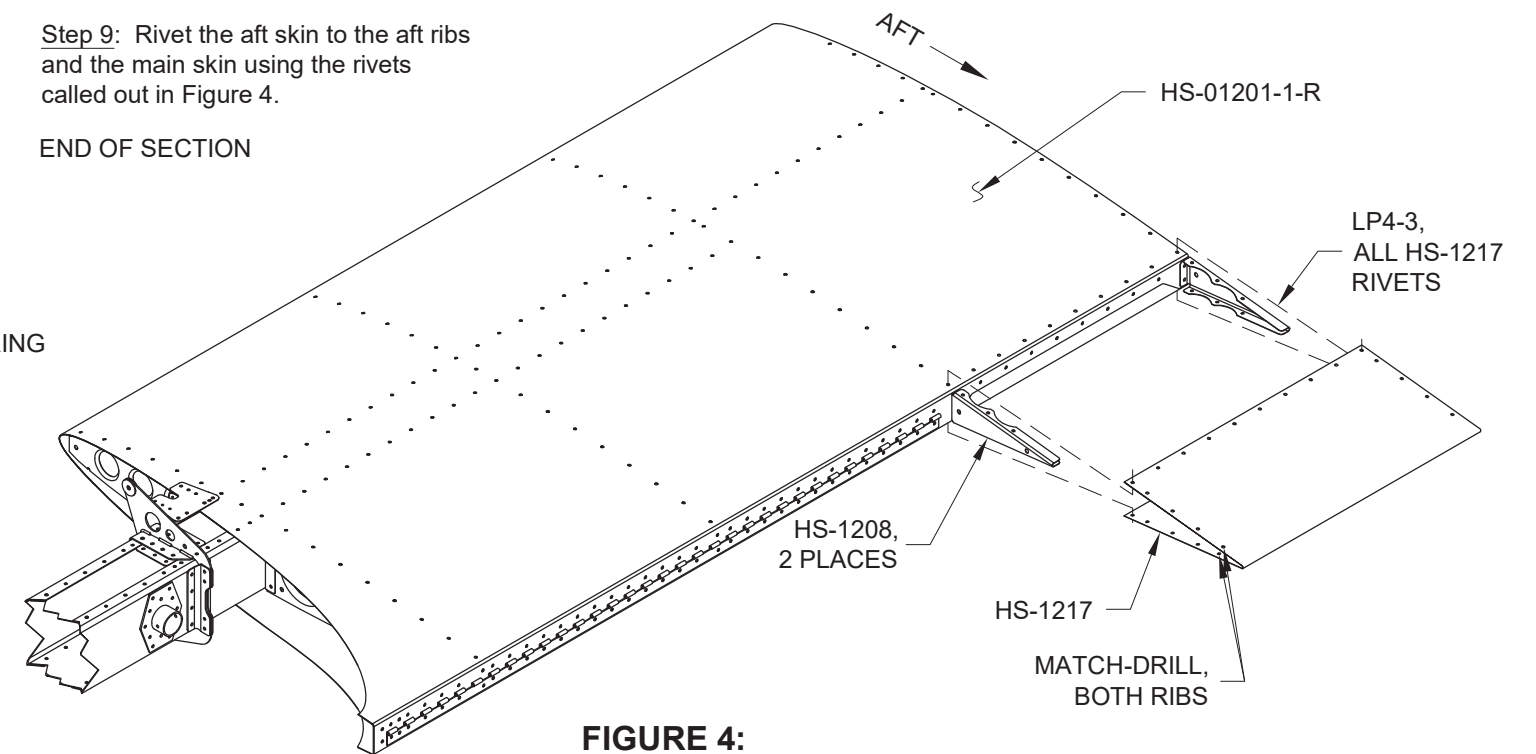

FIGURE 4:
NOTE: Figure 4 illustrates the installation of the HS-1217 Aft Skin for the right side of the Stabilator Assembly. Installation for the HS-1217 on the left side is a mirror of the right.
Step 8: Match-Drill #30 the holes from the aft skin into the aft ribs called out in Figure 4.
Step 9: Rivet the aft skin to the aft ribs and the main skin using the rivets called out in Figure 4.